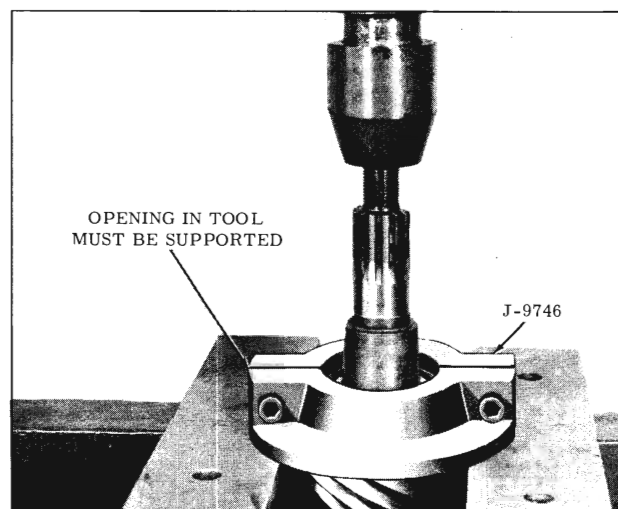

Fig. 6-25 Removing Rear Bearing
10. If the rear pinion bearing or shims are to be replaced, use an arbor press as shown in Fig. 6-25 to press the rear bearing inner race and roller assembly off the pinion shaft.